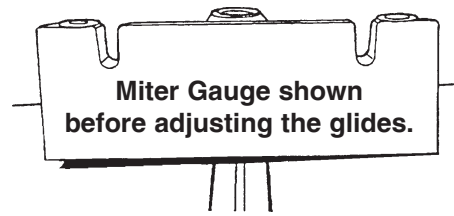

Figure 56
2. Check to see if the Miter Gauge wobbles side-to-side, typified by Figure 56. Also,